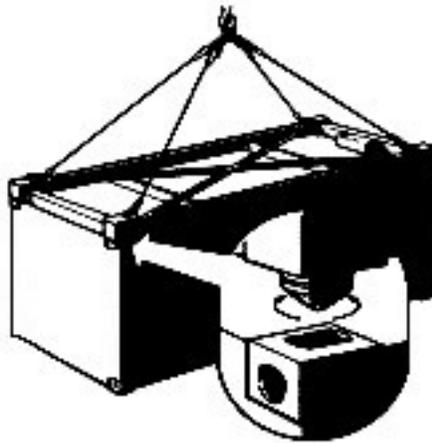

Figure 3-143
1. Ensure personnel check twist locks to make sure they engage and disengage (see Figure 3-143).